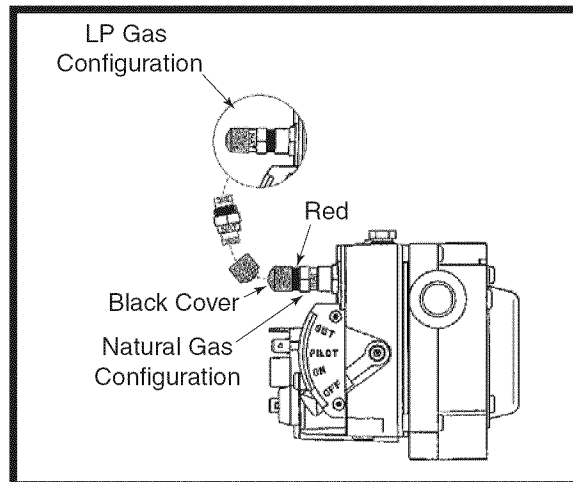

Figure 29. Robertshaw Gas Valve
7. For Robertshaw gas valves with the regulator converter (Figure 29):
8. Move the control lever to **SET** and hold. Immediately light the pilot with a match. Continue to hold the control lever for about one (1) minute after the pilot is lit. **NOTE:** The pilot flame is adjustable by turning the adjustment screw located on the gas valve with a small screwdriver. See Figure 29.